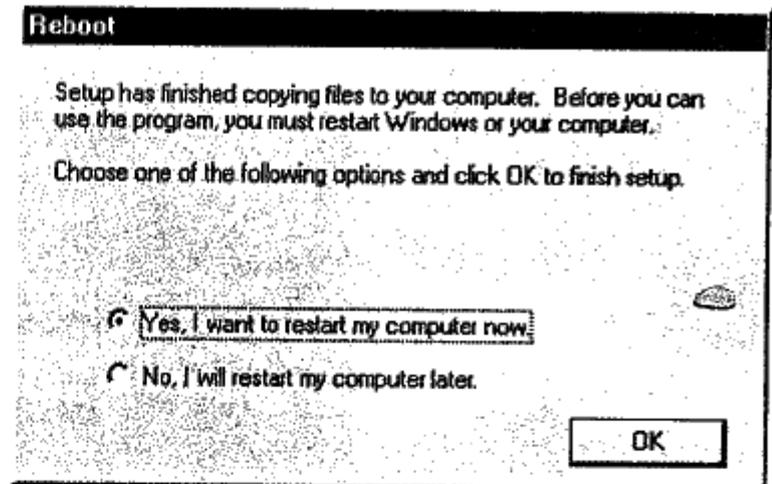

Figure 4-12
7. In "Reboot" windows, select "Yes" or "No" to restart the computer as shown in Figure 4-12. If you select "Yes", be sure to remove the "SL-2000CD Driver & Utility" diskette from the disk drive A.